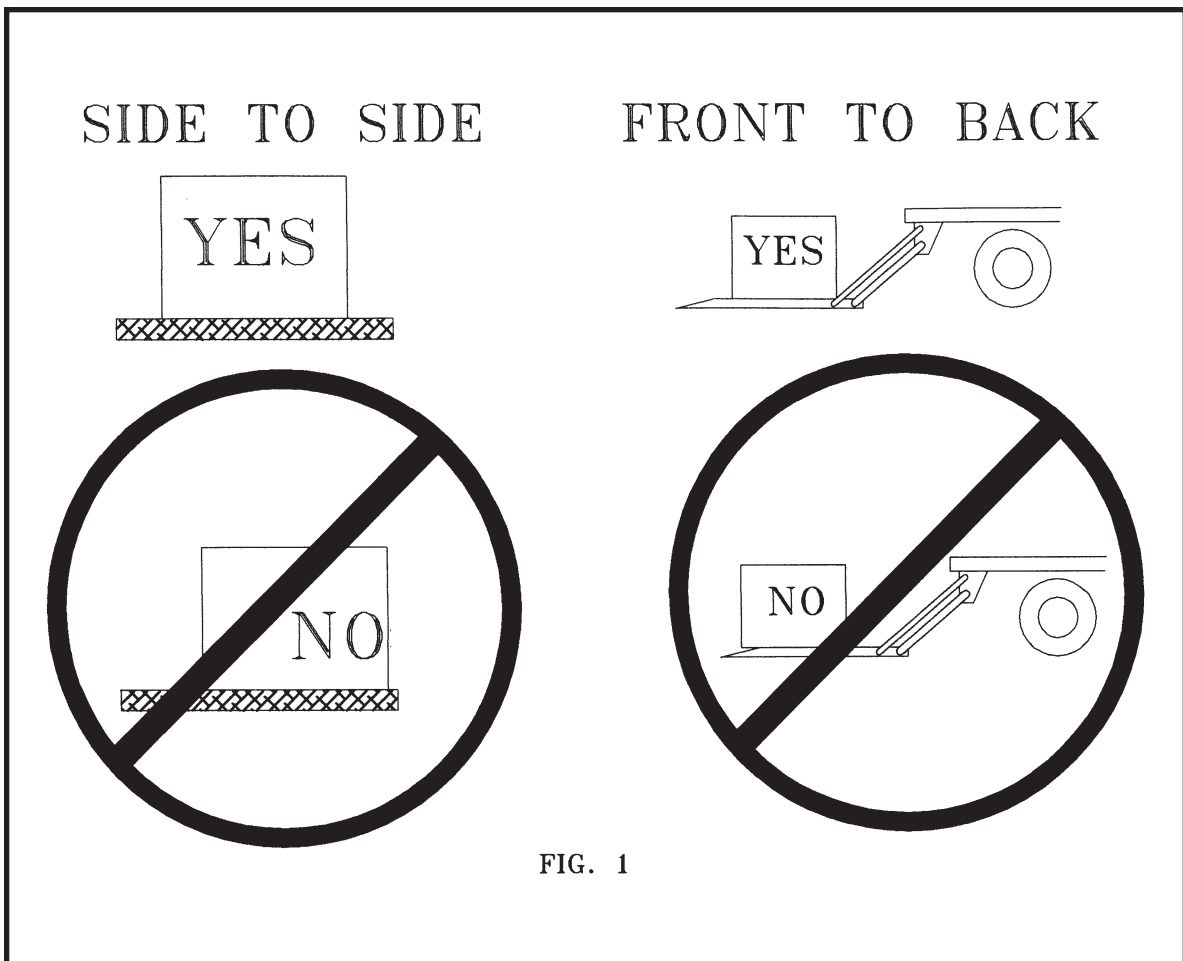

FIG. 1
- Always load as close to the center of the platform and as close to the truck as possible. See Figure 1.